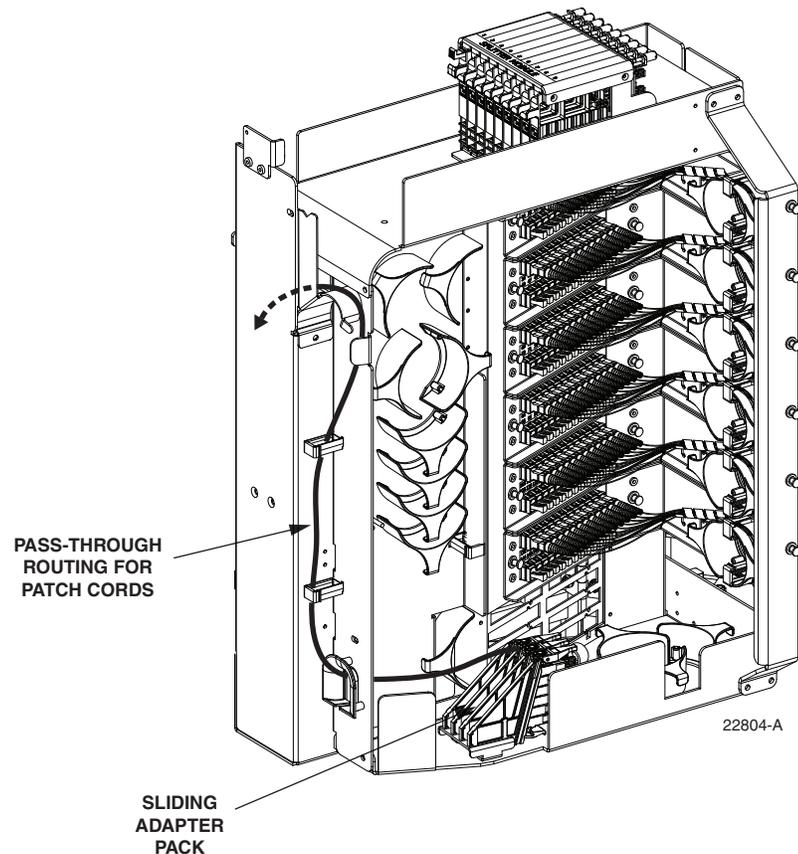

Figure 15. Routing Pass-Through Patch Cord From Sliding Adapter Pack
11. Route the pass-through patch cord to the front side of the swing-out assembly as shown in Figure 15.